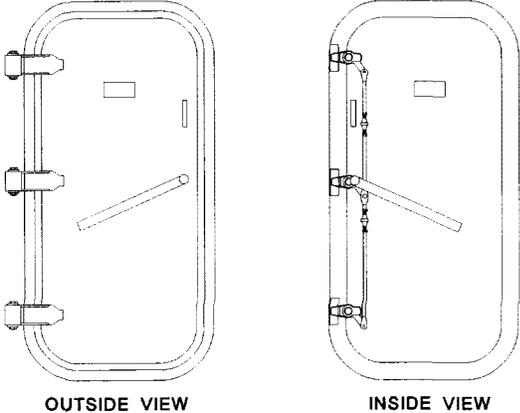

Figure 1-13. Watertight Quick-Acting Ballistic Door
- l. Watertight Quick-Acting Ballistic Doors. (See figure 1-13 and figure 7-6.) These 3-dog doors are installed in ballistic armored bulkheads, and are the same thickness and material as the plating in which they are fitted. These doors are provided where rapid access is required.